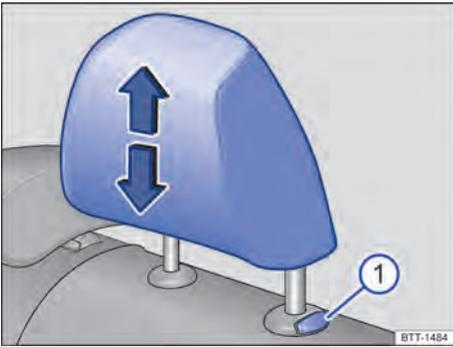
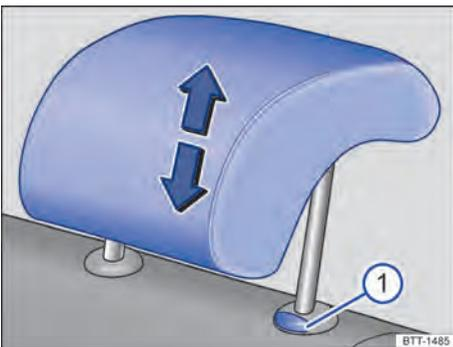

Fig. 75 On the outer rear seats: Adjusting the head restraint
Fig. 76 On the centre rear seat: Adjusting the head restraint
1. Push the head restraint up or down while pressing and holding the button → Fig. 75 ① or → Fig. 76 ①.